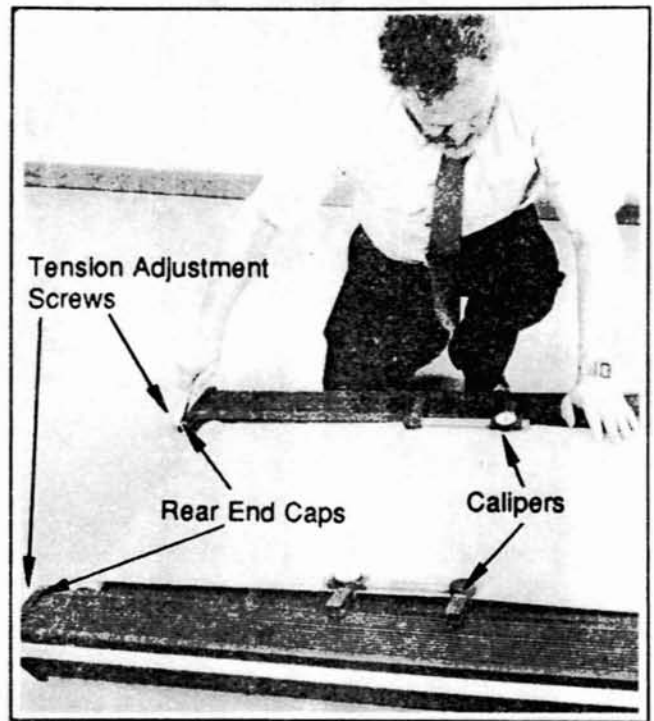

Figure 3-31. Adjusting Walking Belt Tension
1. Thread both tension adjustment screws in until most of the slack is removed from the belt (Figure 3-31).
1. Thread both tension adjustment screws in until most of the slack is removed from the belt. Figure 3-31 on page 3-23 shows where the screws are located.
Figure 3-31 shows the location of the adjustment screws.